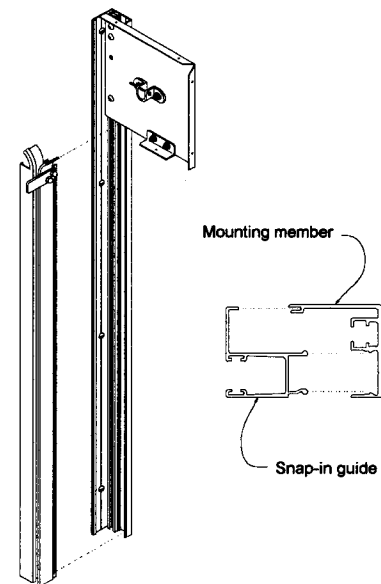

Figure 6
Step 6: Install guide. Taking snap-in guide for left jamb, orient it in front of mounting member as illustrated in Figure 6. To "snap" the guide together on face of wall units, C-clamps with blocks of wood are used. Placing a block of wood on back of